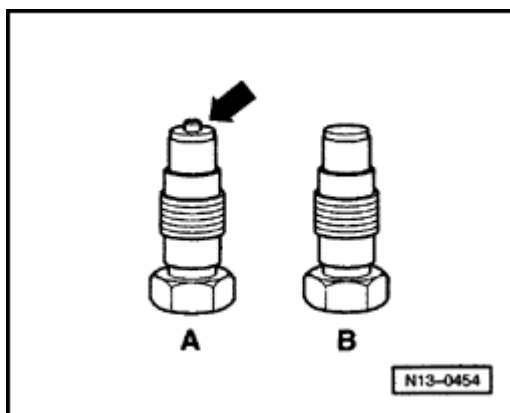

Fig. 2 Chain tensioner for camshaft chain
- ◆ Beginning with engine number AES-003279 only single chains for camshaft drive are installed. Therefore the tensioner does not have an oil bore and can no longer be bled ⇒ Fig. 2 .
- ◆ As of engine number AES 003279 only single-link chains are used. As a result, chain tensioner has no oil hole and does not have to be bled ⇒ Fig. 2.
- ◆ If only camshaft sprocket cover has been removed, prepare cylinder head gasket for assembly ⇒ Page 15-8 , ⇒ Fig. 2 .